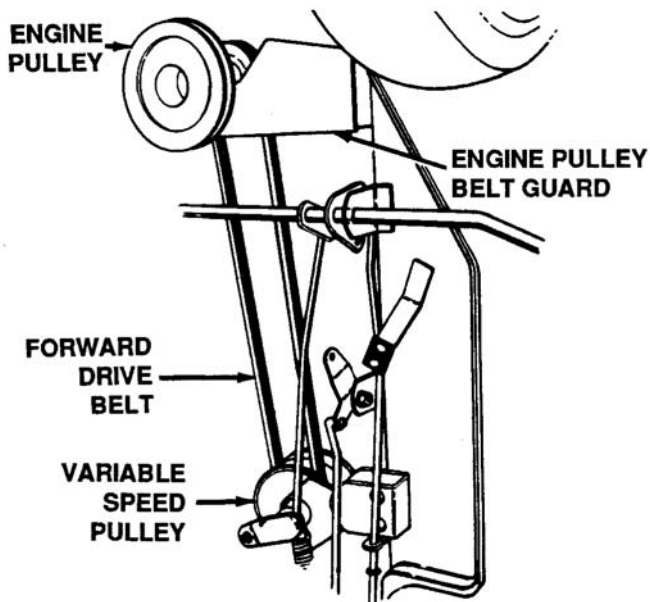

Figure 7-9. Location of Forward Drive Belt
- b. Remove the engine pulley belt guard by removing two self-tapping screws from each side of the unit. Remove the engine pulley belt guard by moving it back and to the left. See Figure 7-9.